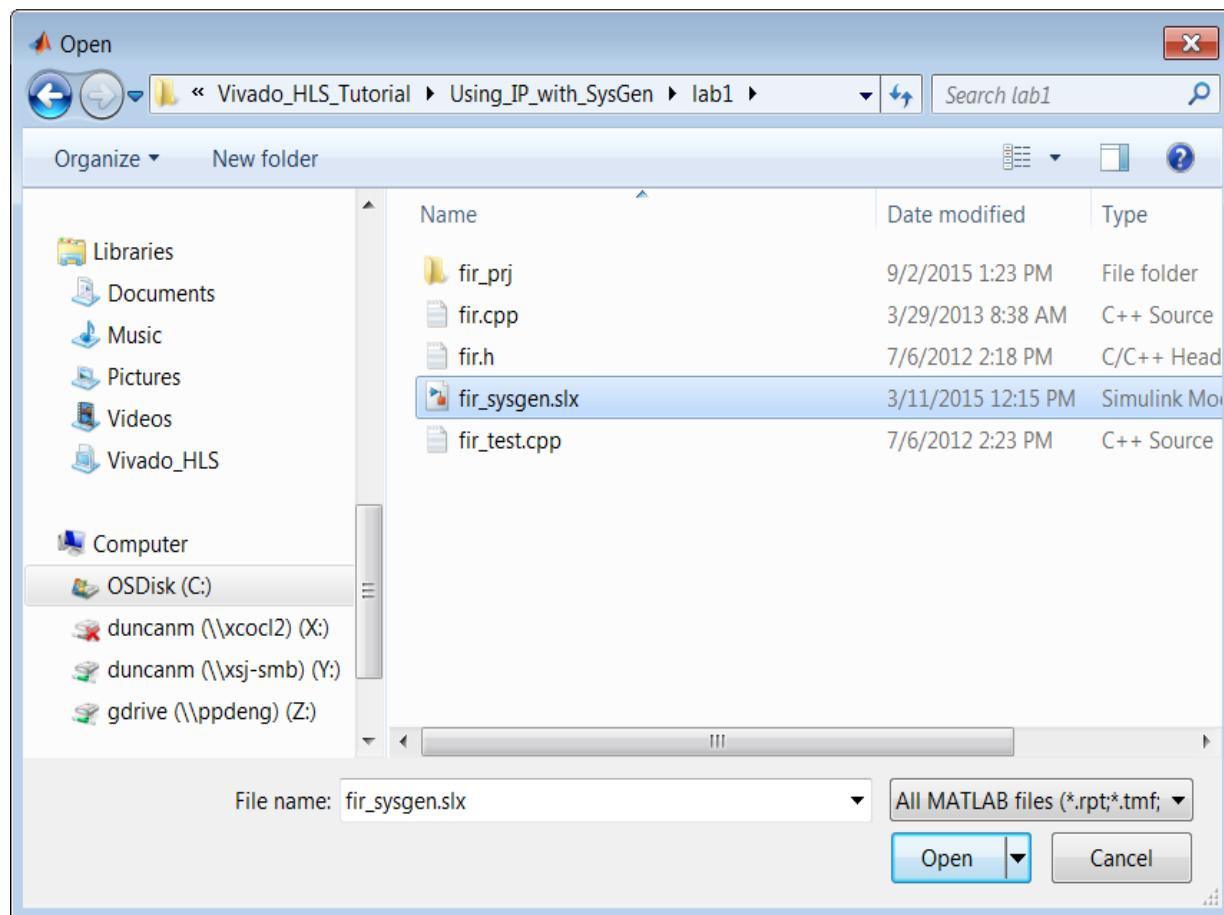

Figure 11-5: Select File fir_sysgen.slx
3. Navigate to the tutorial directory `Vivado_HLS_Tutorial\Using_IP_with_SysGen\lab1` and select the file `fir_sysgen.slx`, as shown in Figure 11-5.